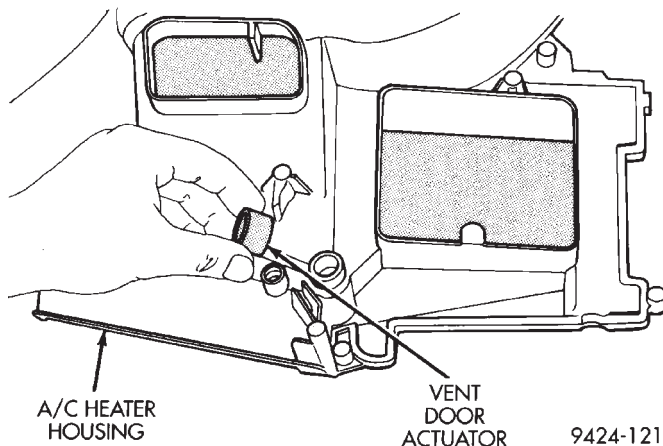

**Fig. 83 Vent Door Actuating Arm**
(27) Remove vent door actuating arm from lower housing (Fig. 83).